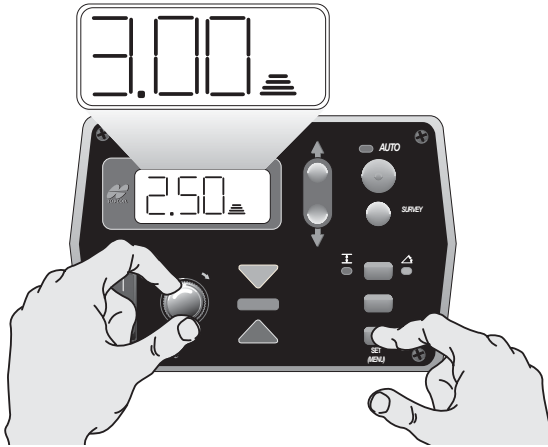

Figure 5-10. Adjusting Grade
2. Press and hold the Set button while turning the Grade Adjustment Knob to read 3.0 inches (Figure 5-10 on page 5-10). Release the Set button to apply the setting.